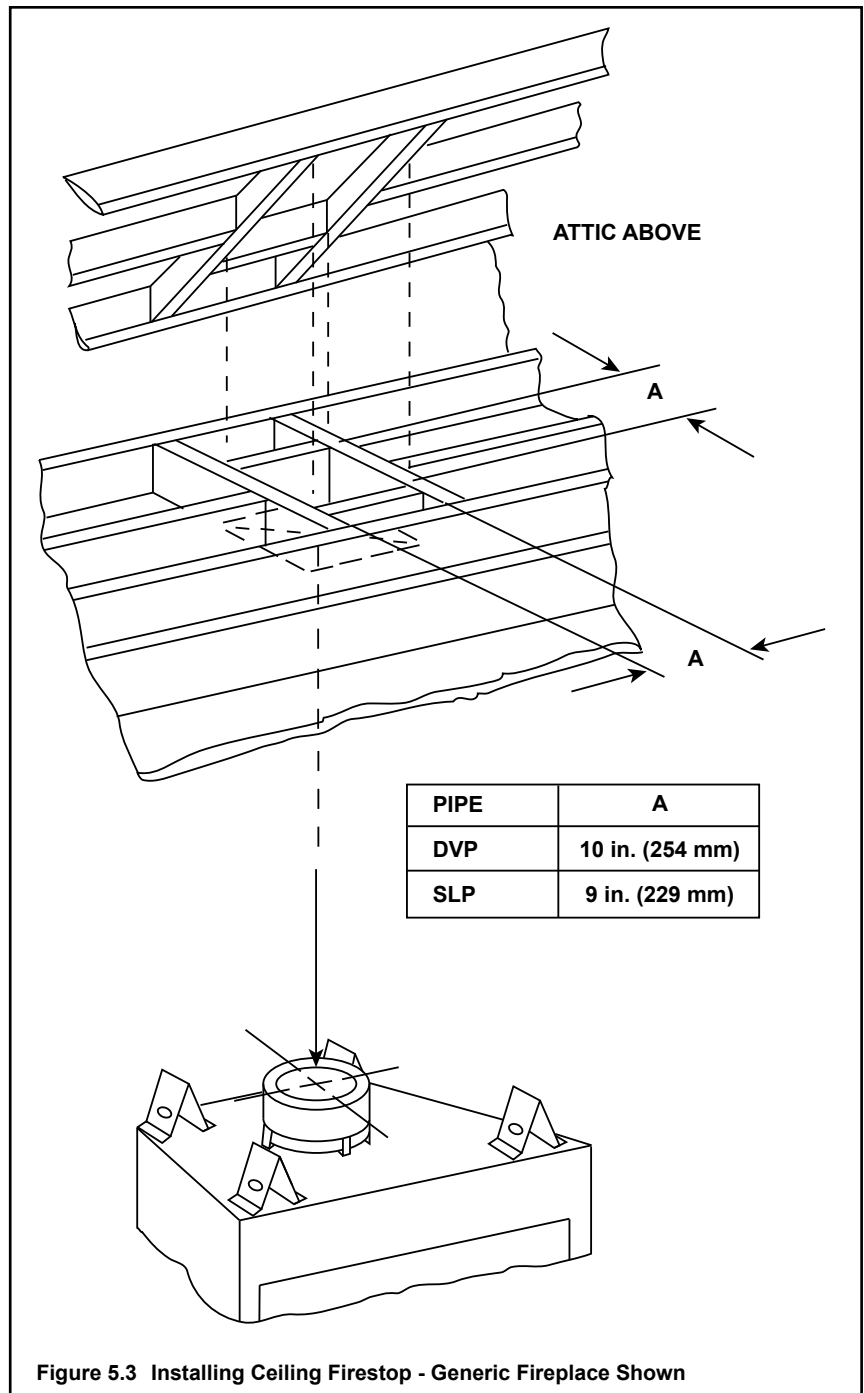

Figure 5.3 Installing Ceiling Firestop - Generic Fireplace Shown
- **DVP pipe only** - Frame an opening 10 in. by 10 in. (254 mm by 254 mm) whenever the vent penetrates a ceiling/floor. See Figure 5.3.
- **SLP pipe only** - Frame opening 9 in. x 9 in. (229 mm x 229 mm) whenever the vent penetrates a ceiling/floor. See Figure 5.3.